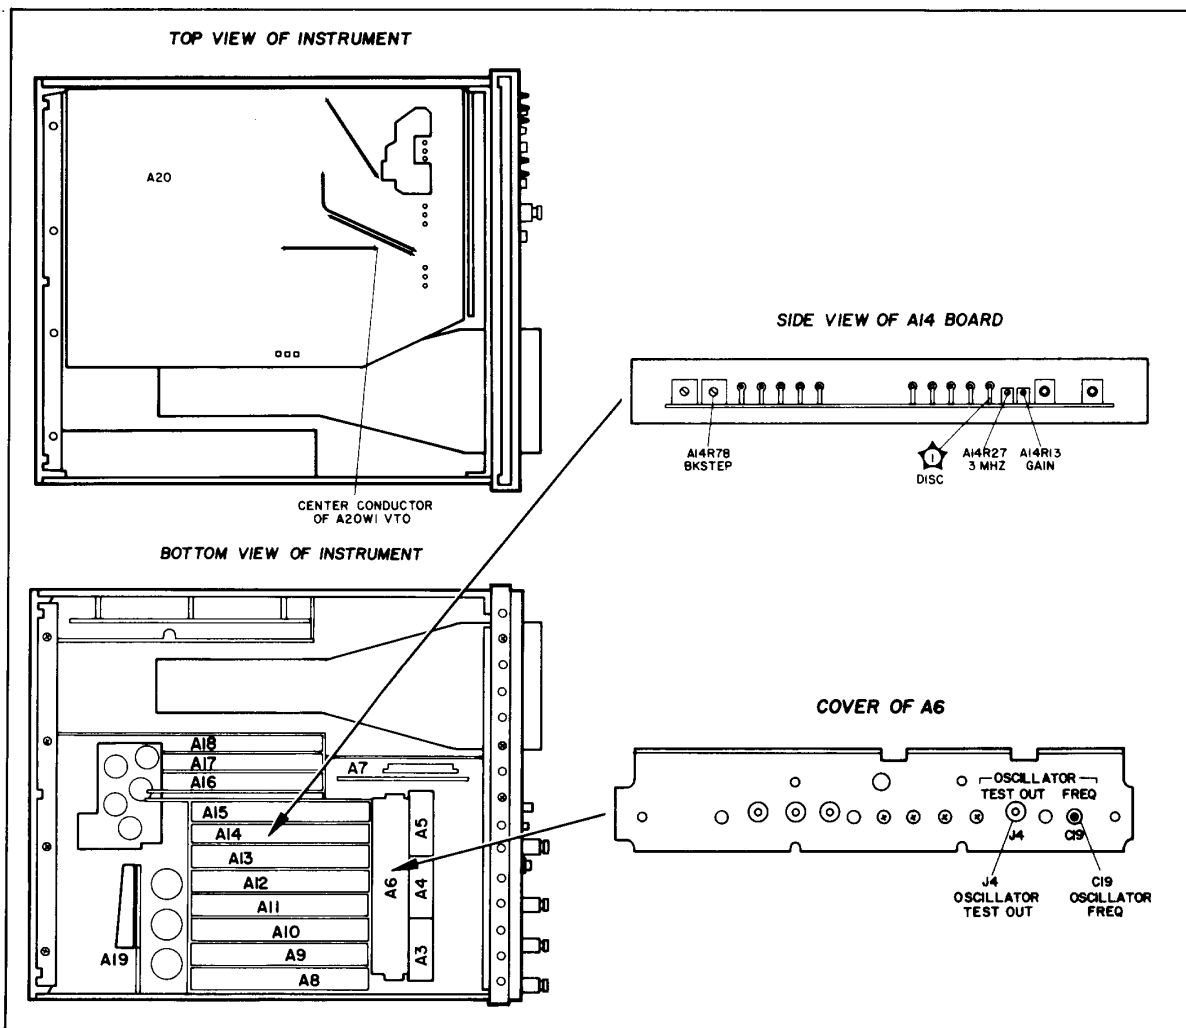

Figure 5-19. VTO Frequency Adjustment Locations
- c. Connect positive (+) power supply lead to the center conductor of A20W1 VTO shielded cable (cable on Motherboard between XA14 pin 10 and XA6 pin 21/43; See Figure 5-19.) Connect negative (-) power supply lead to ground.